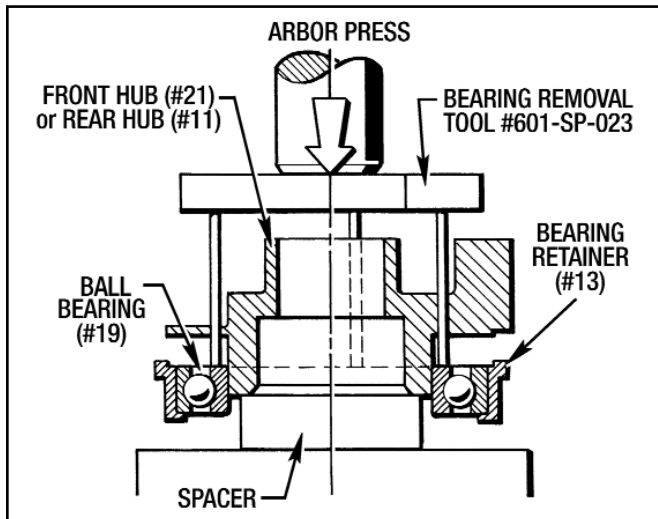

Figure 6.9 - Removing Ball Bearings (#19) and Bearing Retainer (#13) from Hub
2. Use the Bearing Removal Tool #601-SP-023 as shown in *Figure 6.9* to take the Ball Bearing (#19) and the Bearing Retainer (#13) off the Hub. Insert the (3) protruding pins on the tool into the (3) holes in each hub.